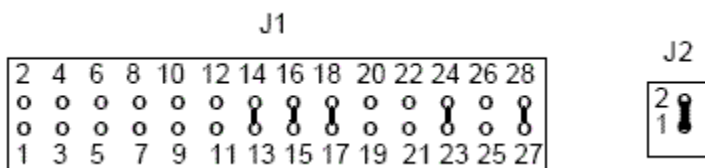
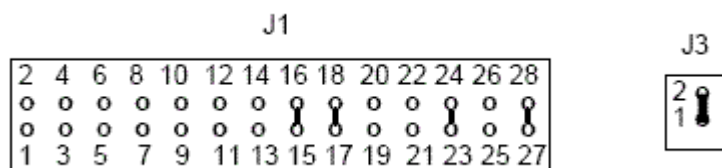

Figure G-9. Ethernet Jumper Configuration BOS v1.82 and Earlier
Figure G-10. Ethernet Jumper Configuration BOS v1.84 and Later
- (d) If the 2350A BOS version is v1.84 or later, ensure that J6 Jumper on pins 13-14 of J1 has been removed. See Figure G-9 and Figure G-10.